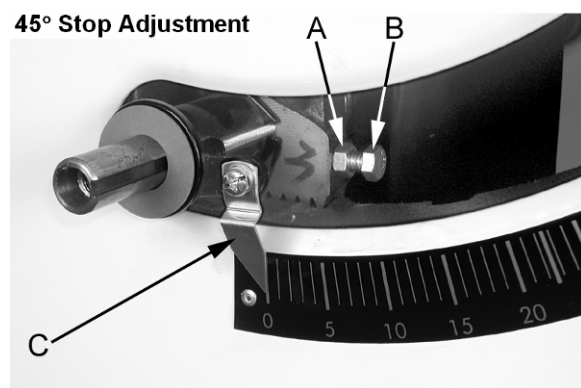

Figure 20
9. Check the accuracy of the pointer (C, Fig. 20) on the angle scale and adjust, if necessary.